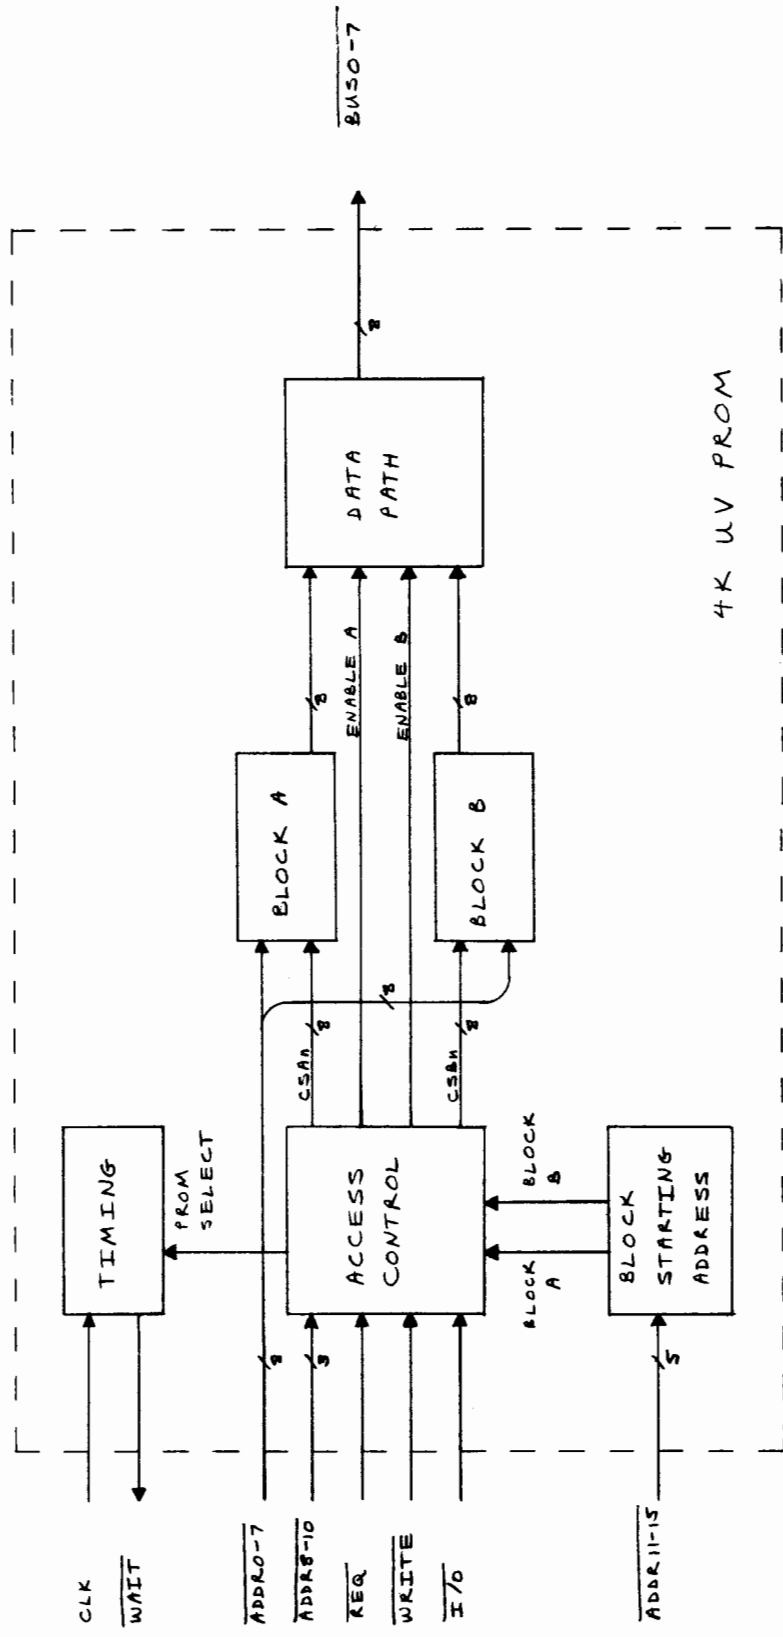
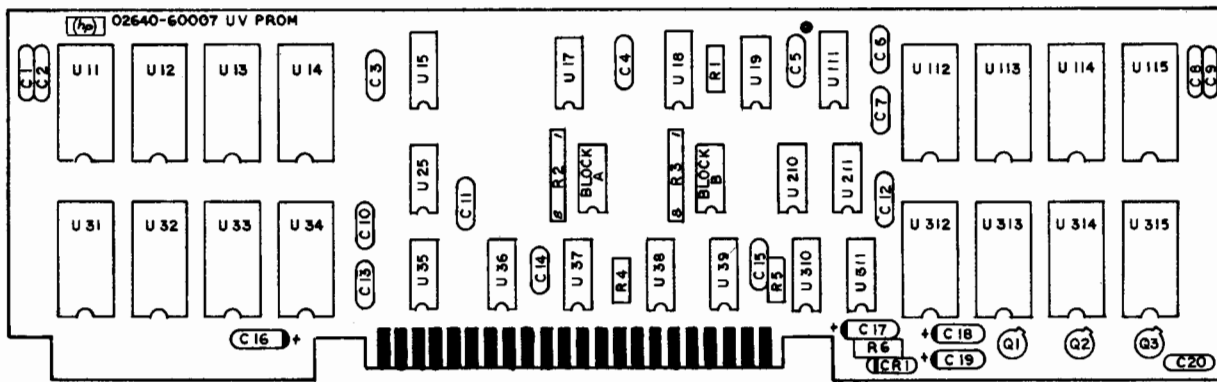

Figure 1
Figure 3
3.0 FUNCTIONAL DESCRIPTION. Refer to the block diagram (figure 1), schematic diagram (figure 2), component location diagram (figure 3), and parts list (02640-60007) located in the appendix.